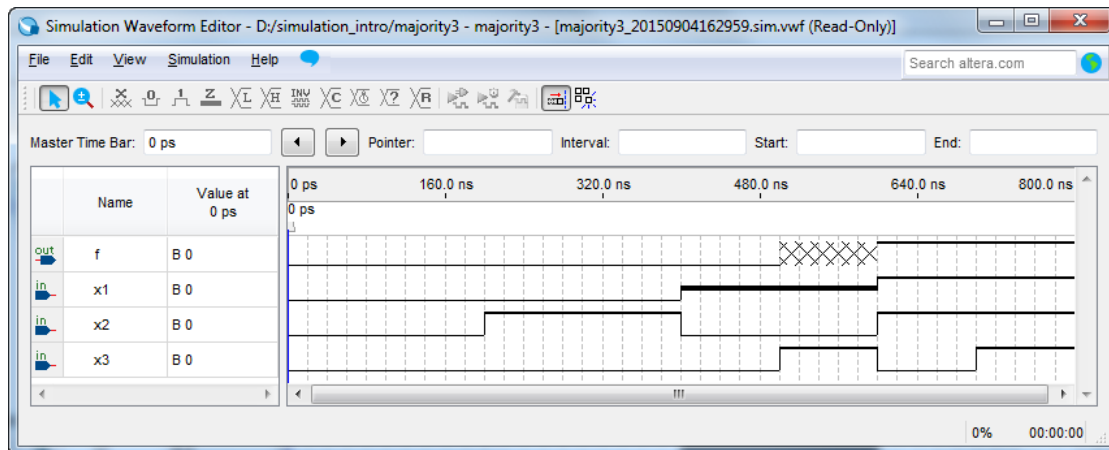

Figure 6. Setting a signal to high impedance.
This tool forces the selected waveform to the value High Impedance (Z), as shown in Figure 6. The high impedance value represents a signal that has not been set to any specific value—that is, an input pin that is not connected. Forcing output waveforms to have high impedance does not affect the output simulation waveforms.